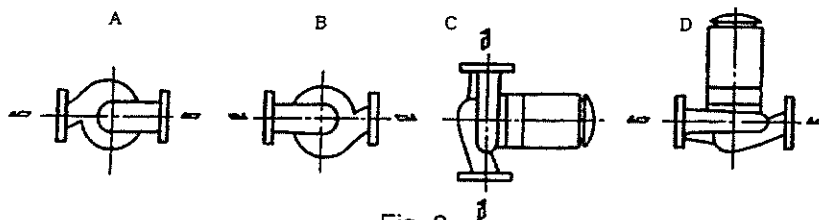
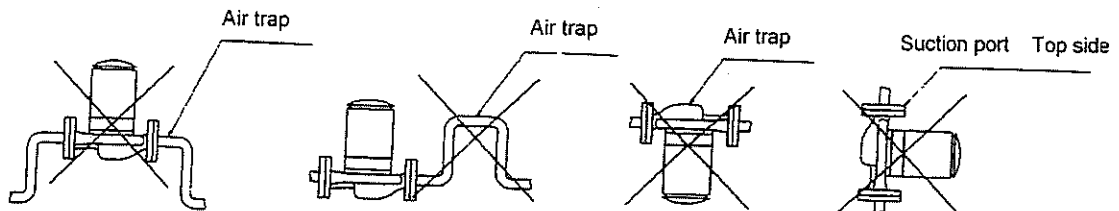

Fig. 2
Fig. 3
- (1) The pump should be installed to piping as shown in A through D in Fig. 2. The piping as shown in Fig. 3 is not allowed.